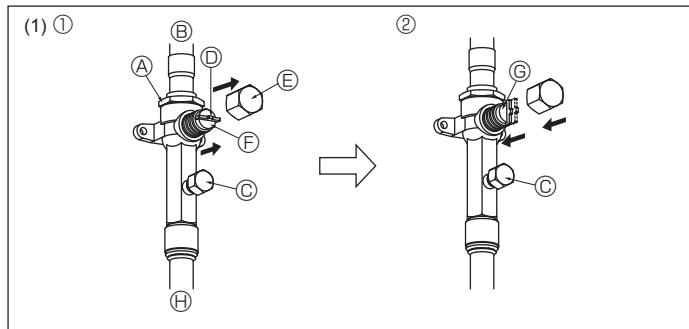
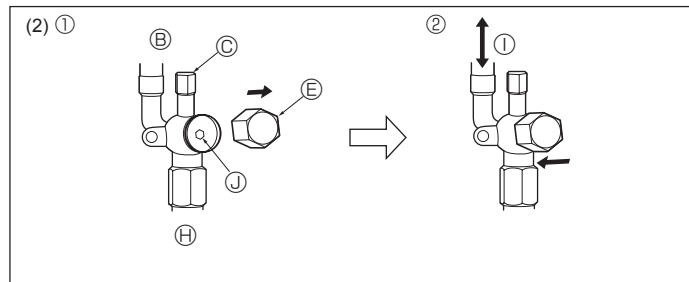

Fig. 4-10
Fig. 4-11
(1) Gas side (Fig. 4-10)
- ① Remove the cap, pull the handle toward you and rotate 1/4 turn in a counterclockwise direction to open.
- ② Make sure that the stop valve is open completely, push in the handle and rotate the cap back to its original position.
(2) Liquid side (Fig. 4-11)
- ① Remove the cap and turn the valve rod counterclockwise as far as it will go with the use of a 4 mm hexagonal wrench. Stop turning when it hits the stopper. (ø6.35: Approximately 4.5 revolutions) (ø9.52: Approximately 10 revolutions)